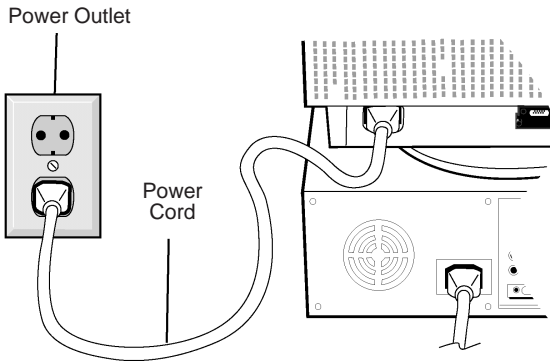

Figure C.1
4. Connect one end of the power cord to the MultiSync A Series monitor and the other end to the power outlet (Figure C.1).